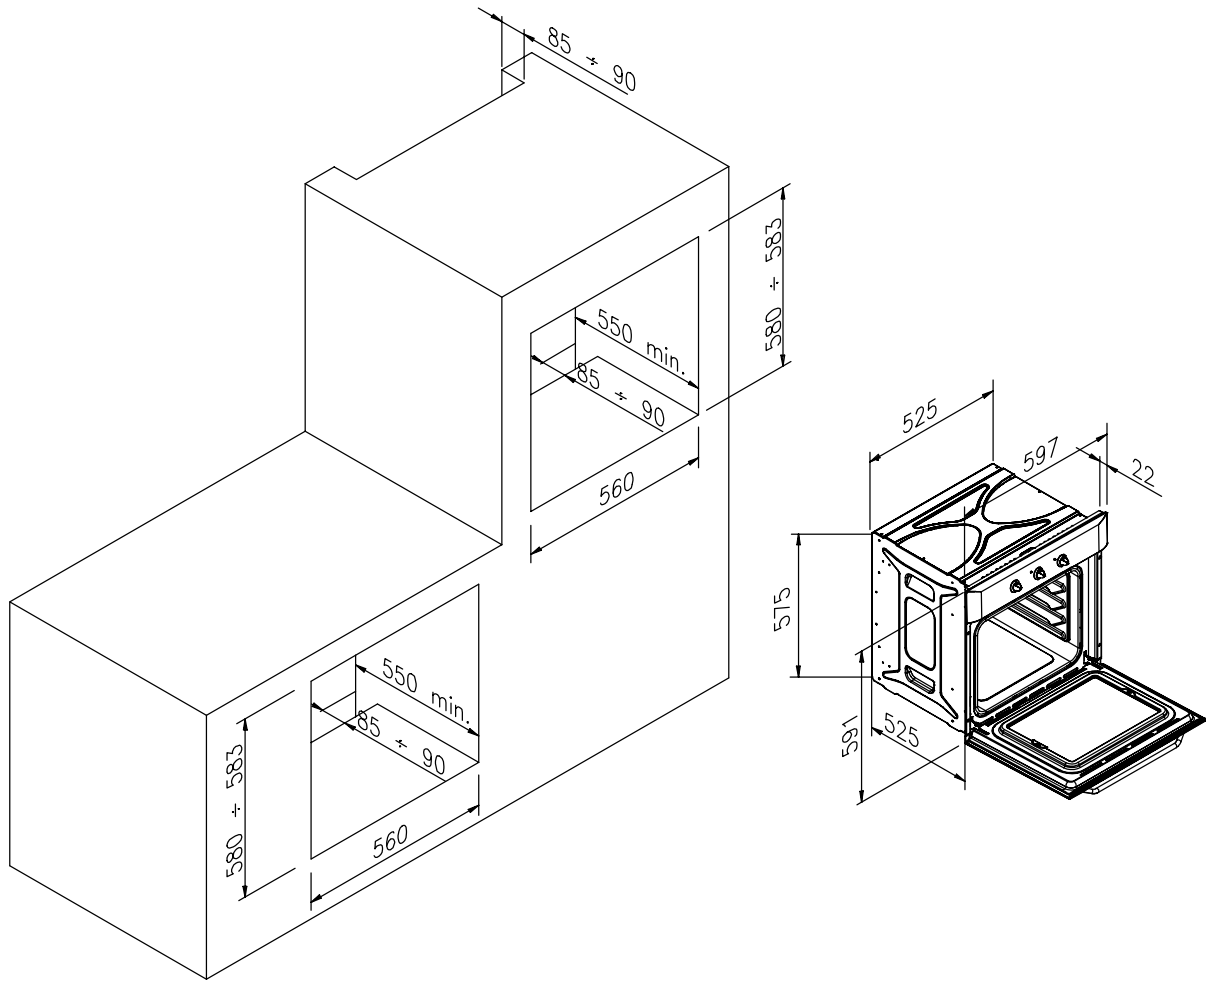

Fig. 2: Installation distances for 60cm wide single electric ovens
POSITIONING THE APPLIANCE (see Fig. 2 page 18)
1. Ensure that the aperture for oven installation is the correct size as per Fig. 2 page 18.